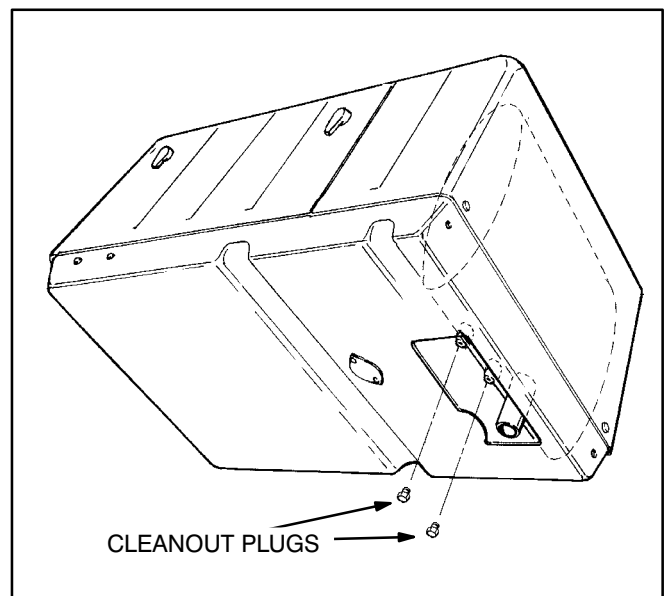

FIGURE 13. SPARK ARRESTOR CLEANOUT PLUGS
1. Remove the cleanout plugs from the bottom of the muffler (Figure 13).